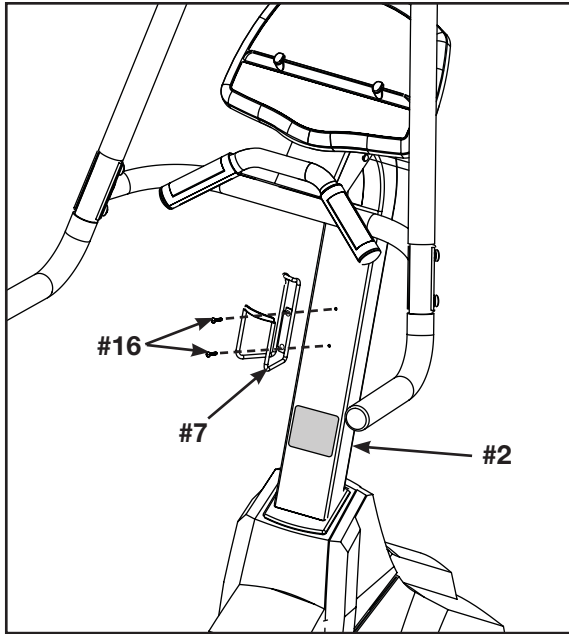

Figure 11
- B. Using a Phillips head screwdriver secure the bottle cage to the console upright (#2) using two screws 10-24 x 1/2" (#16). See Figure 11.